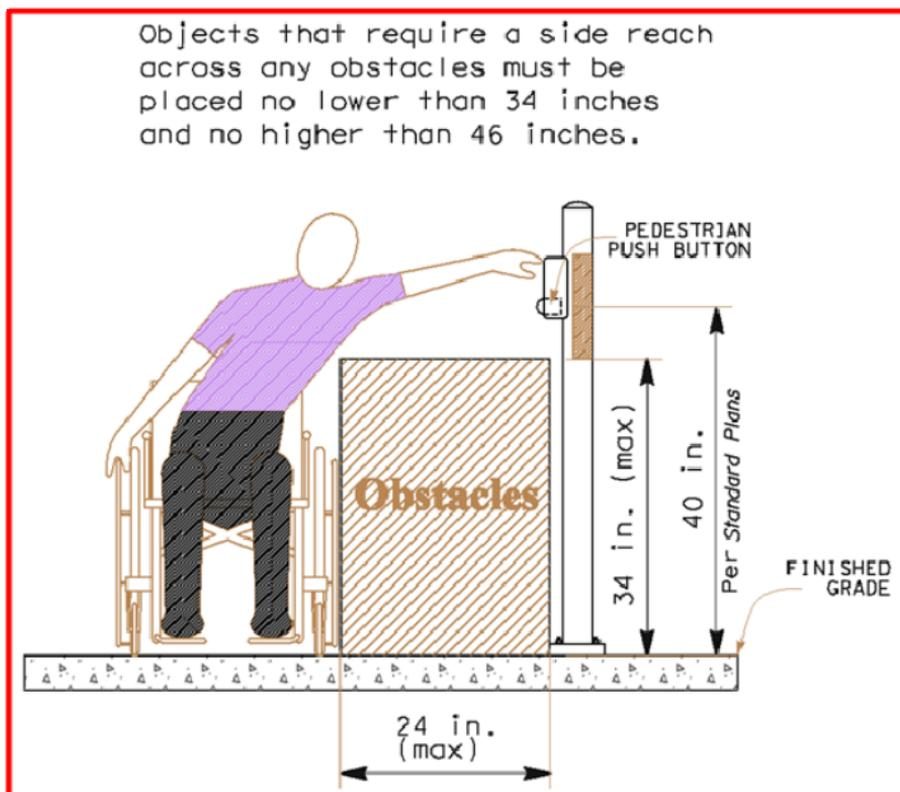

Figure 12. High Side Reach (ADAAG)
- If the pedestrian push button requires a side reach, obstructions at the bottom cannot extend more than 24 inches from base. For the exact height of the button, refer to the *Standard Plans*. (See Figure 12.)